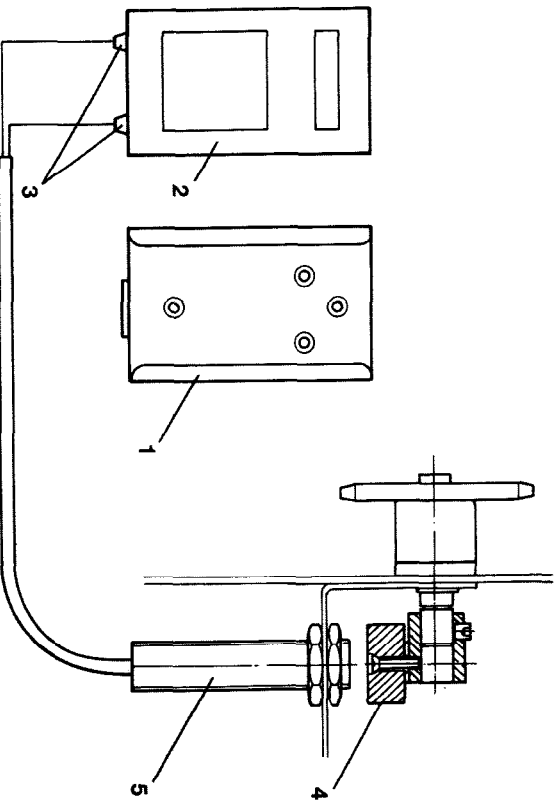

Fig. 5
- Fit the back plate (Fig. 5/1) in a suitable position in the tractor cab and lead the main cable (Fig. 2/7) back from the drill to the tractor.
- Fit the case (Fig. 5/2) into the back plate (Fig. 5/1)
Please check that during the input of all data the magnet (Fig. 5/4) is not placed directly in front of the transponder (Fig. 5/5)